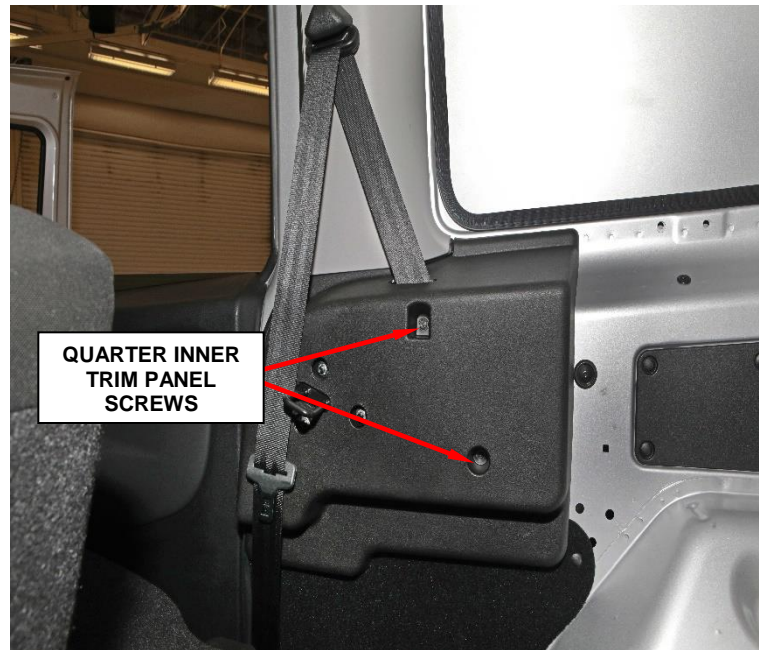

Figure 17 – Quarter Inner Panel
8. Remove the screws that secures the quarter inner trim panel (Figure 17).